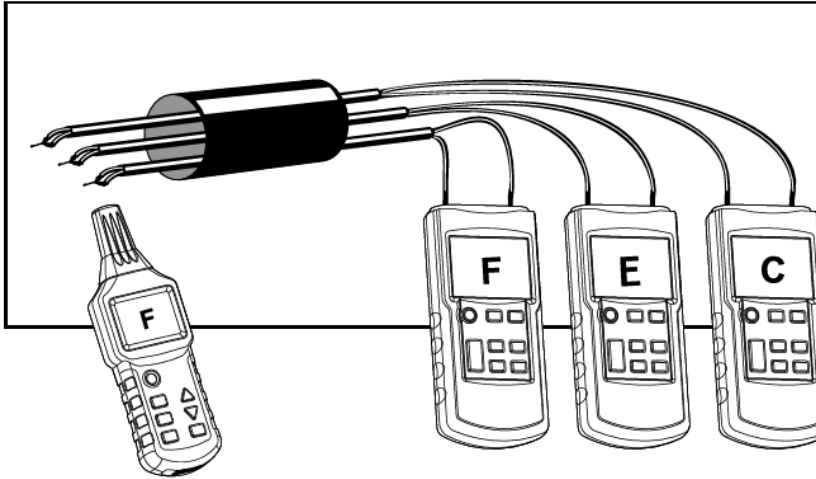

Fig. 3-2-5
- Connect the transmitter as shown in Fig. 3-2-5.